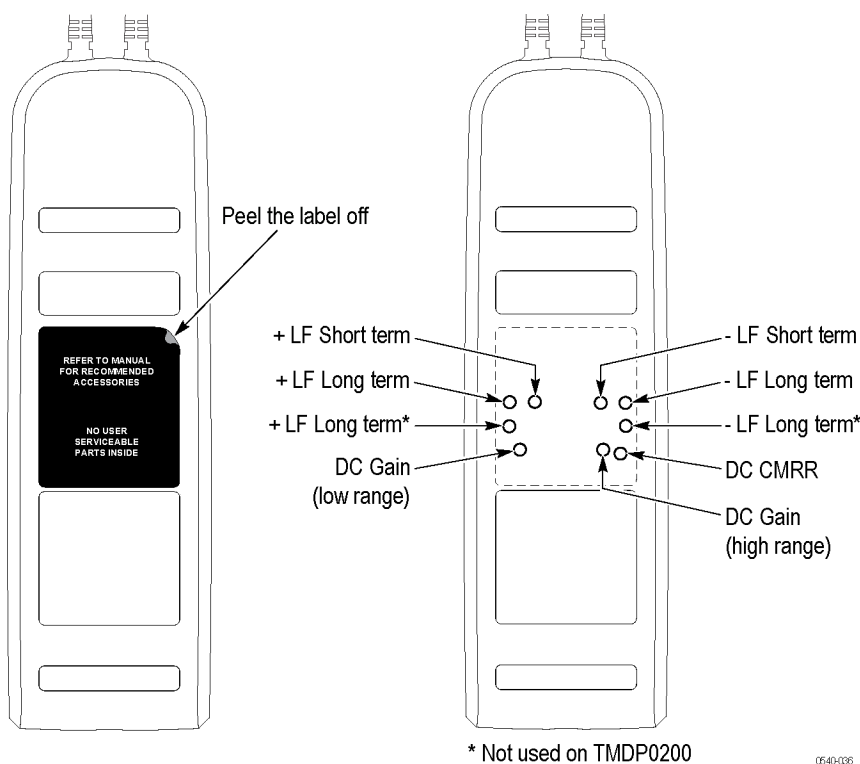

Figure 14: Internal adjustment locations (S/N C020000 and above only)
**NOTE.** Only probes with serial numbers C020000 and above have internal adjustments. (See Figure 14.) Probes with serial numbers C019999 and below that require adjustments (other than offset zero) must be returned to Tektronix for service.